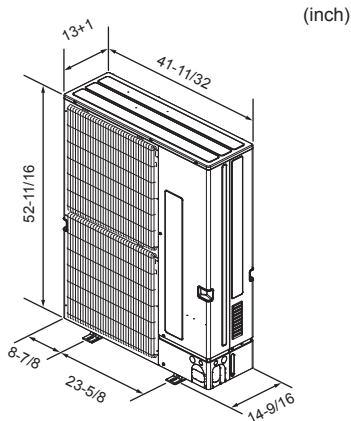

Fig. 2-2
2.4. Outline dimensions (Outdoor unit) (Fig. 2-2)